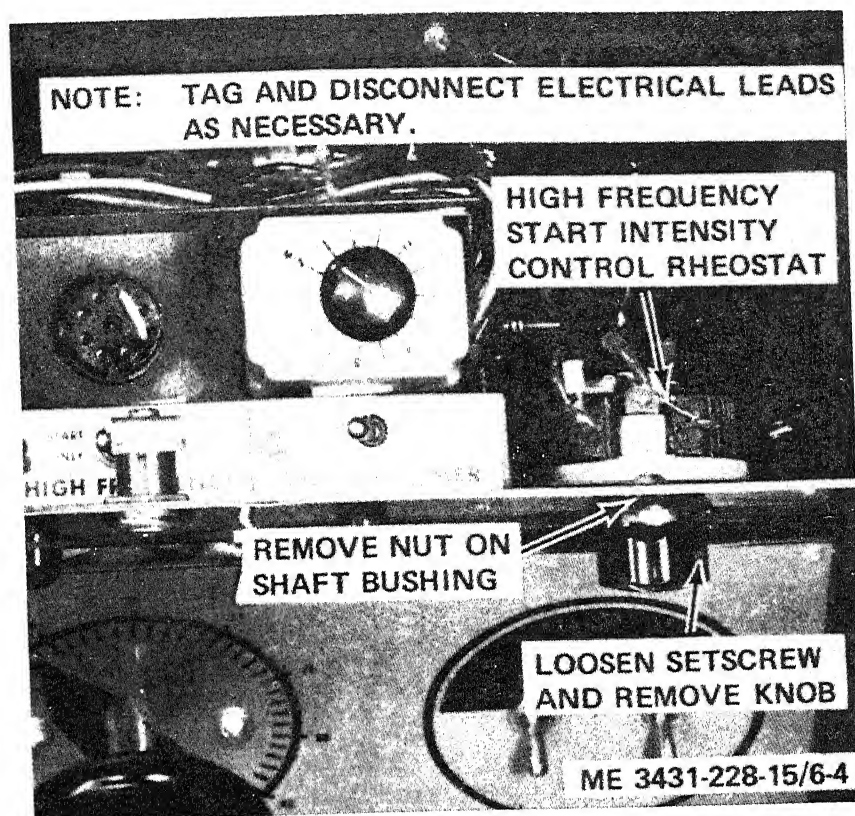

Figure 6-4. High frequency start intensity control rheostat, removal and installation.
- (1) Disconnect ac power from the welding machine.
- (2) Unlock and open the door on the front of the timer and high frequency drawer.
- (3) Refer to figure 6-4 and remove the rheostat.
- (1) Refer to figure 6-4 and install the rheostat.
- (2) Close and lock the timer and high frequency drawer.